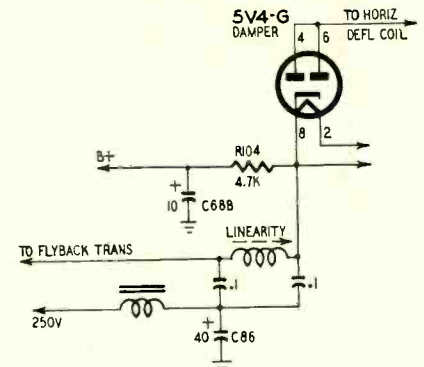

Fig. 3—Horizontal linearity and low-voltage filter circuit in Philco set.
*When the set came in, R104, a 4,700-ohm 1-watt resistor in the cathode circuit of the damper (Fig. 3), was burned out. I replaced this resistor but it immediately began to smoke. I don't want to replace it with a higher-wattage unit because I have seen it operate in other sets. The 5V4-G damper is running very hot. I have checked the damper circuit components but all check out good. I am passing this along for any suggestions you might have.—W. S., Portland, Ore.*